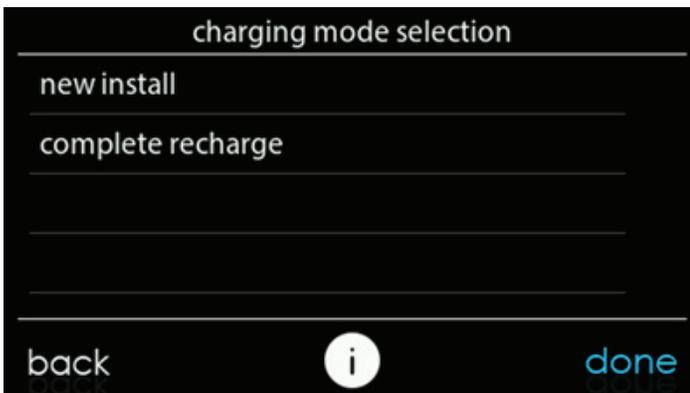

Fig. 19 – Charging Mode Selection A20037
- If this is a new install, i.e. the ODU is factory charged, then select "new install" in the "charging mode selection" screen (see Fig. 19)